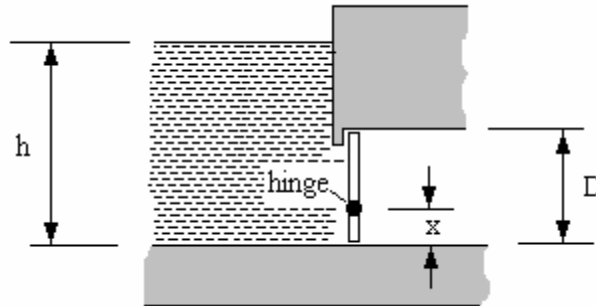

Fig.11
3. A culvert in the side of a reservoir is closed by a vertical rectangular gate 2m wide and 1 m deep as shown in fig. 11. The gate is hinged about a horizontal axis which passes through the centre of the gate. The free surface of water in the reservoir is 2.5 m above the axis of the hinge. The density of water is 1000 kg/m^3 .